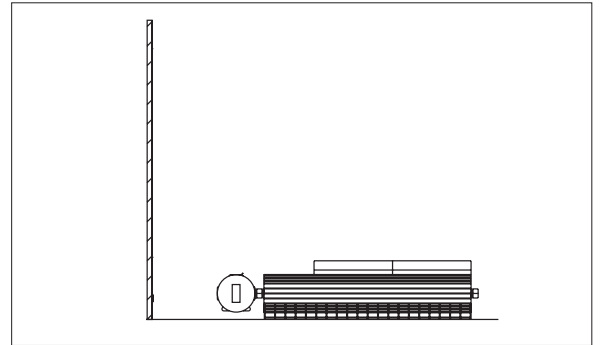

Figure 6 – Floor mounting diagram
Step 1: Position heater face down on the floor with terminal box towards the wall (Figure 6).